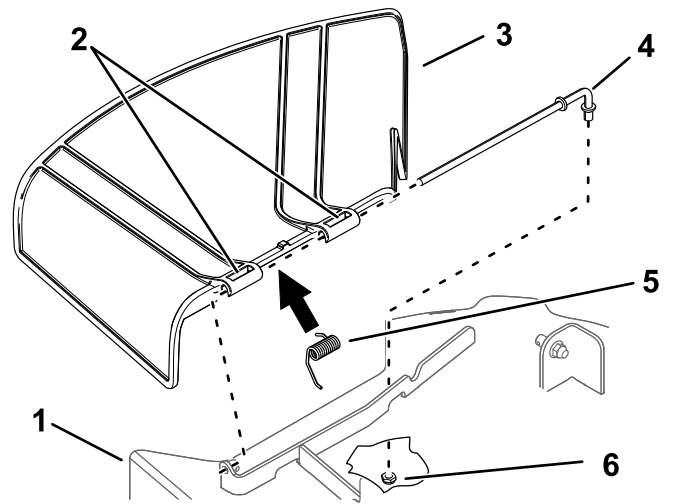

Figure 68
2. Slide the rod out of the deck bracket, spring, and grass deflector (Figure 68).
4. Install the new grass deflector (Figure 68).
7. Slide the rod through the second grass-deflector pivot (Figure 68).
9. Secure the rear end of the rod into the mower with a nut (3/8 inch) as shown in Figure 68.
1. Remove the nut (3/8 inch) from the rod under the mower (Figure 68).